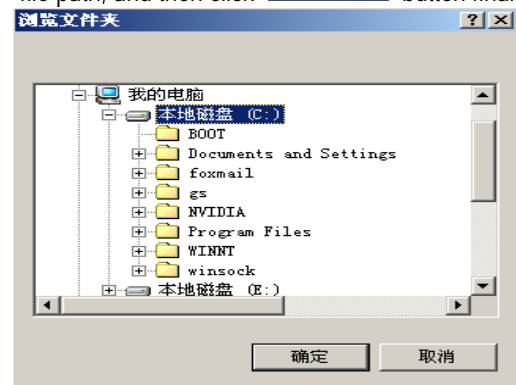

Fig.4.49
1. Backup: Click  button, find the position of the file you expect to save in pop-up dialogue box (The interface is as shown in Fig.4.49) or enter the path address directly in the blank of exported file path, and then click  button finally.